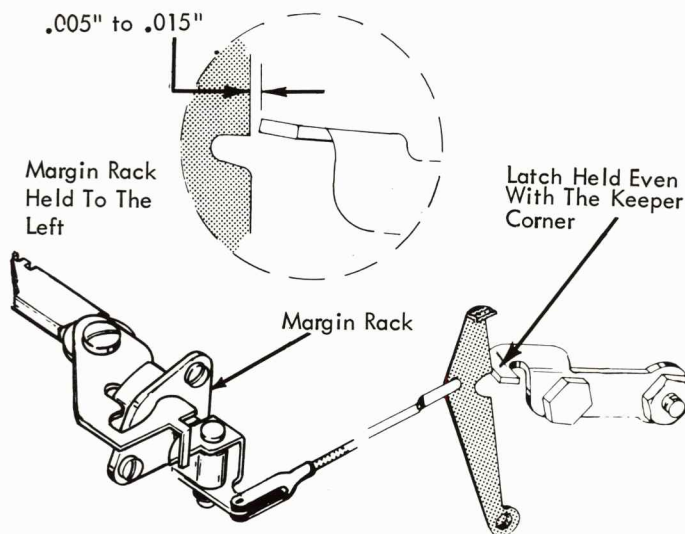

FIGURE 147. Clutch Unlatching Adjustment
7. **Clutch Unlatching** - With either style margin rack held to its extreme left position, the carrier return latch keeper should clear the latch by .005" to .015" at the unlatching point (Fig. 147). Check by manually holding the latch at the unlatching point while the machine is idling. Lengthen or shorten the carrier return unlatching link to obtain this clearance.